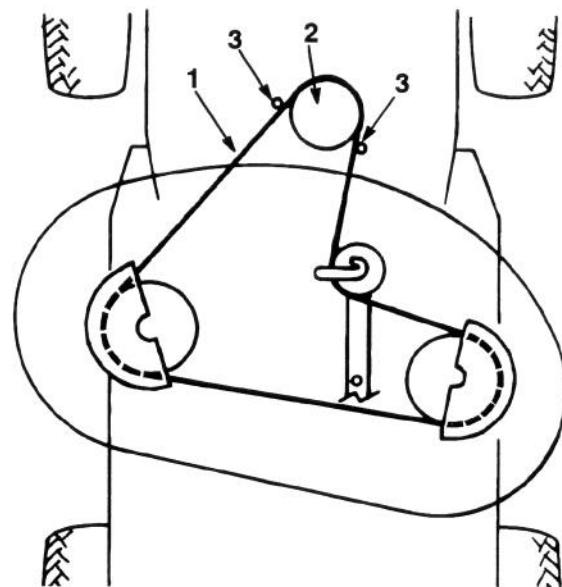

Figure 42
10. Remove the mower belt from the lower engine pulley (Fig. 42). If you are careful, you can flex the belt guide(s) just far enough away from the pulley to remove the belt. If it is too difficult to remove the belt, loosen the bolts and nuts securing the belt guides.
- Install mower belt onto the lower engine pulley (Fig. 42). If you are careful, you can flex the belt guide(s) just far enough away from the pulley to install the belt. If it is too difficult to install the belt, loosen the bolts and nuts securing the belt guides.